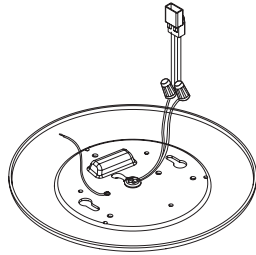

Figure 6
5. Connect luminaire to female connector with wire nuts (included - Figure 6)